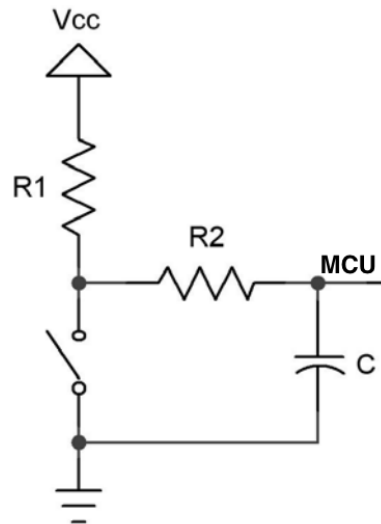

FIGURE 1. An RC debouncing circuit
There exist several methods to de-bounce a switch¹. For instance, a simple RC debouncer (Figure 1) can be used to reduce the effect of a bouncing switch.
- Repeat the lab instruction described in Section 4.1.3 and use the circuit in Figure 1 to debounce each switch.